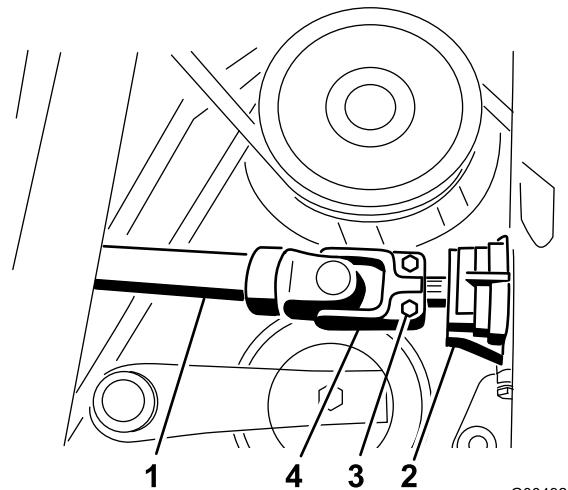

Figure 90
34. Slide the drive shaft onto the gearbox shaft (Figure 90). Install the roll pin and torque the bolts to 175-225 in-lb (20 to 25 N-m).